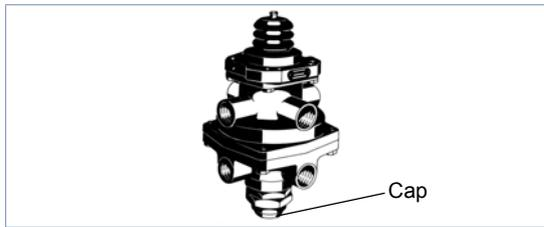

Fig. 7 Position of cap in the device
- Adjust exact pressure with the cap (see fig. 7).